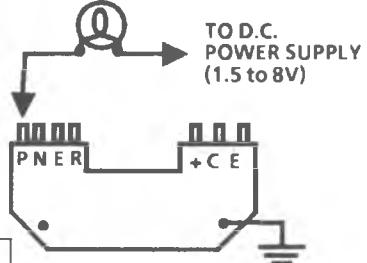

Fig. 1
• Insulate a test light probe to 1/4" from tip and note voltage, as test light is momentarily connected from a voltage source (1.5 to 8V) to module term. "P". (Fig. 1).